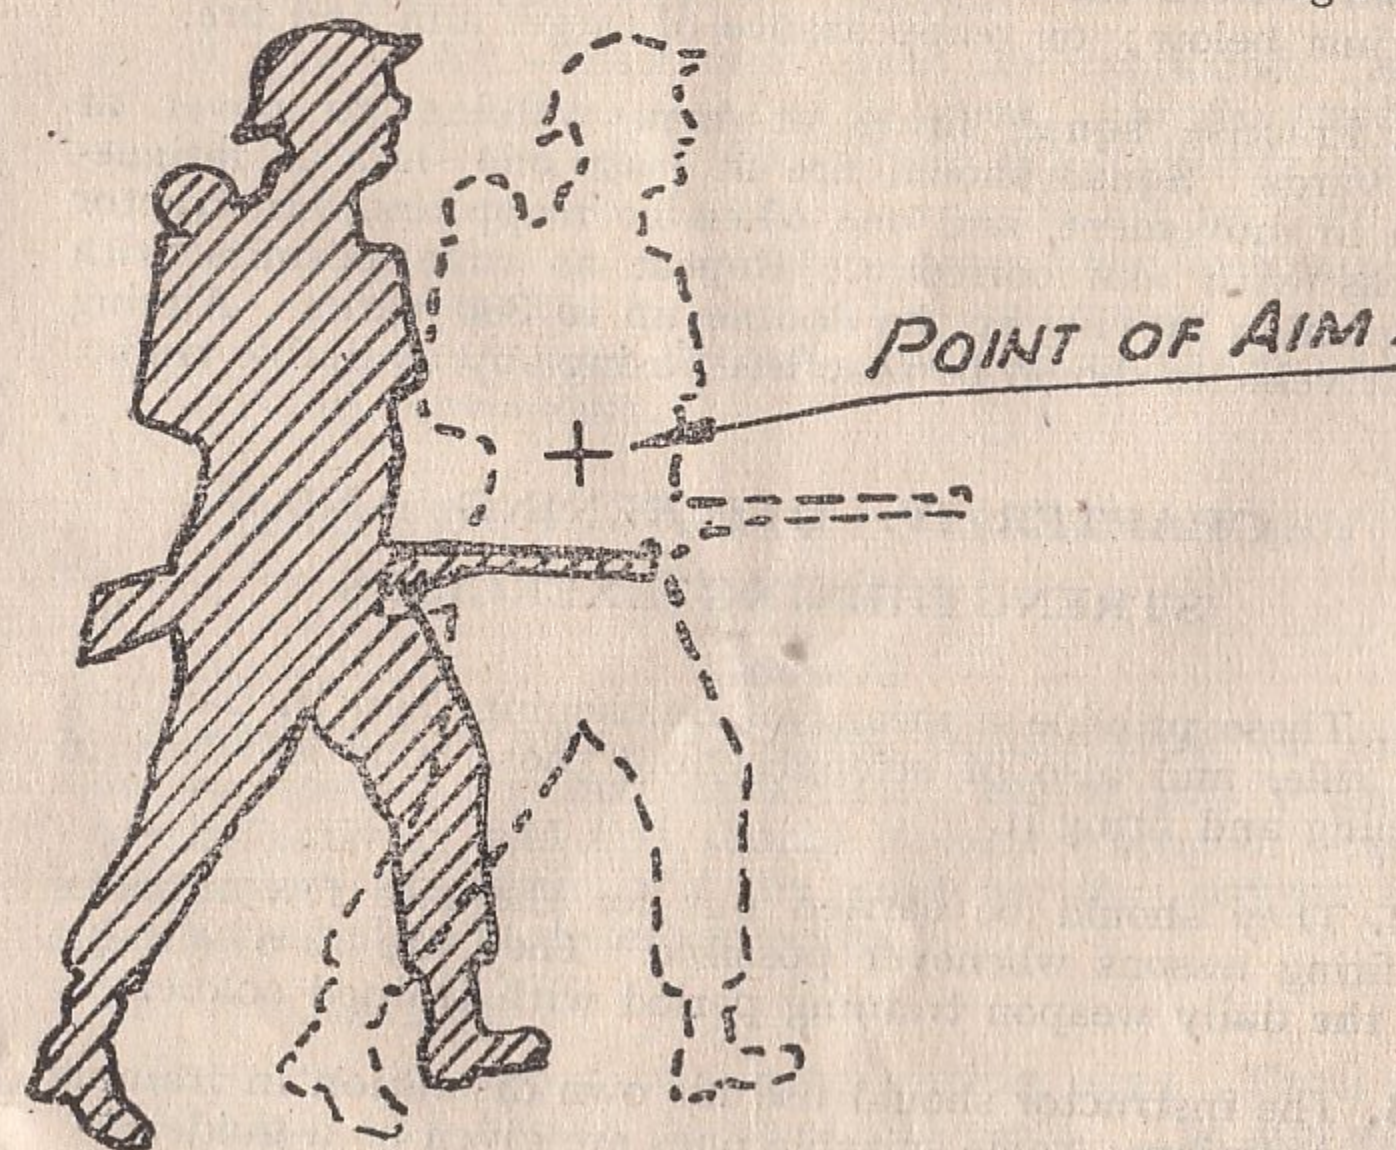

Fig. 14a
i. Aim off at man walking—1 man's width. (Fig. 14a.)